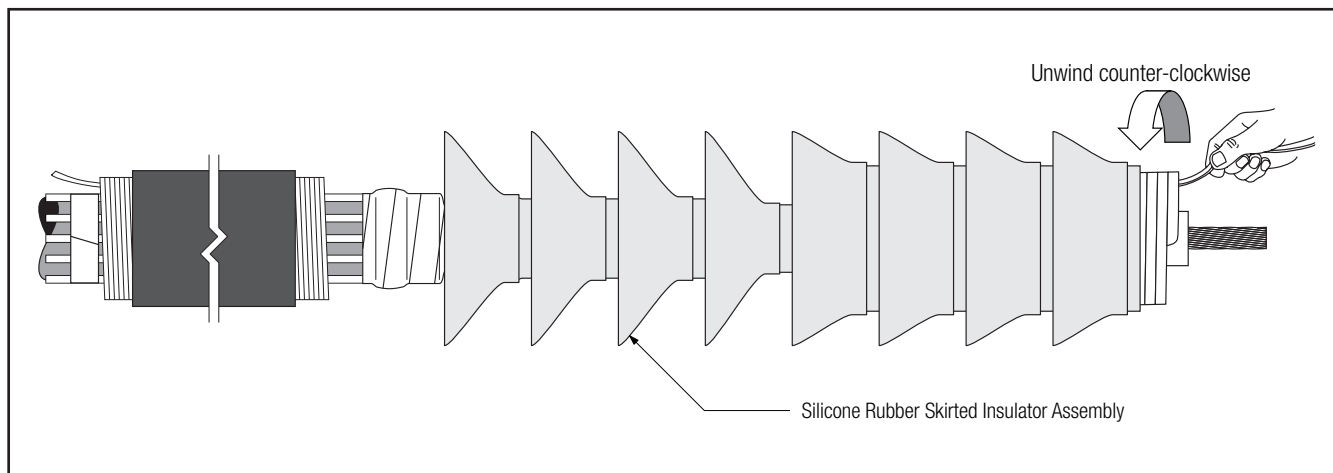

Figure 10
3.6 Slide the Silicone Rubber Skirted Insulator Assembly onto the cable. Align the assembly tube (not the core) with the sealing mastic/wire cover tape located 3.0" (76 mm) from the end of the cable semi-con, and remove the core by pulling the loose end while unwinding counter-clockwise. (Figure 10)